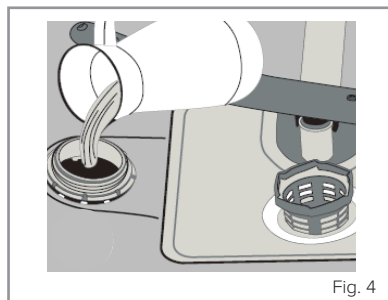

Fig. 4
2. Fill the compartment with dishwasher salt (do not use table salt), carefully to prevent unnecessary spillage (Fig. 4). Before first use, you should fill the compartment with 1kg of dishwasher salt and then fill up the salt compartment with water (up to the brim of the compartment) as shown in Fig. 4.